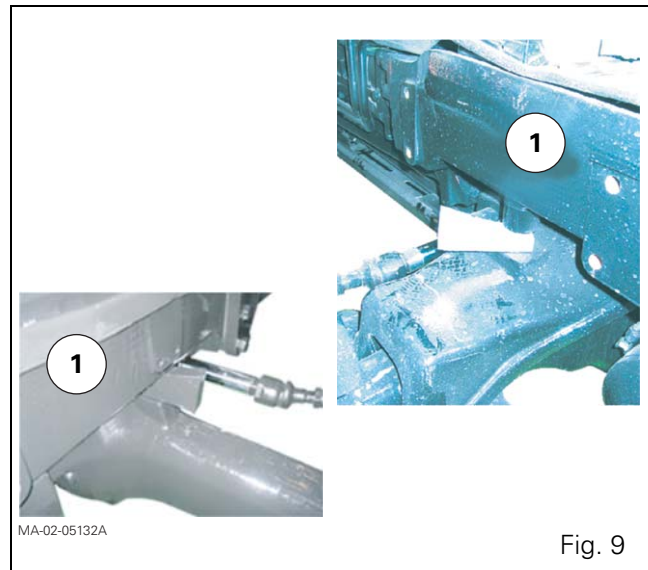

Fig. 9
23. Cancel the front axle oscillation (all versions) by sliding a suitable chock in at each side of the front frame (1) (Fig. 9).